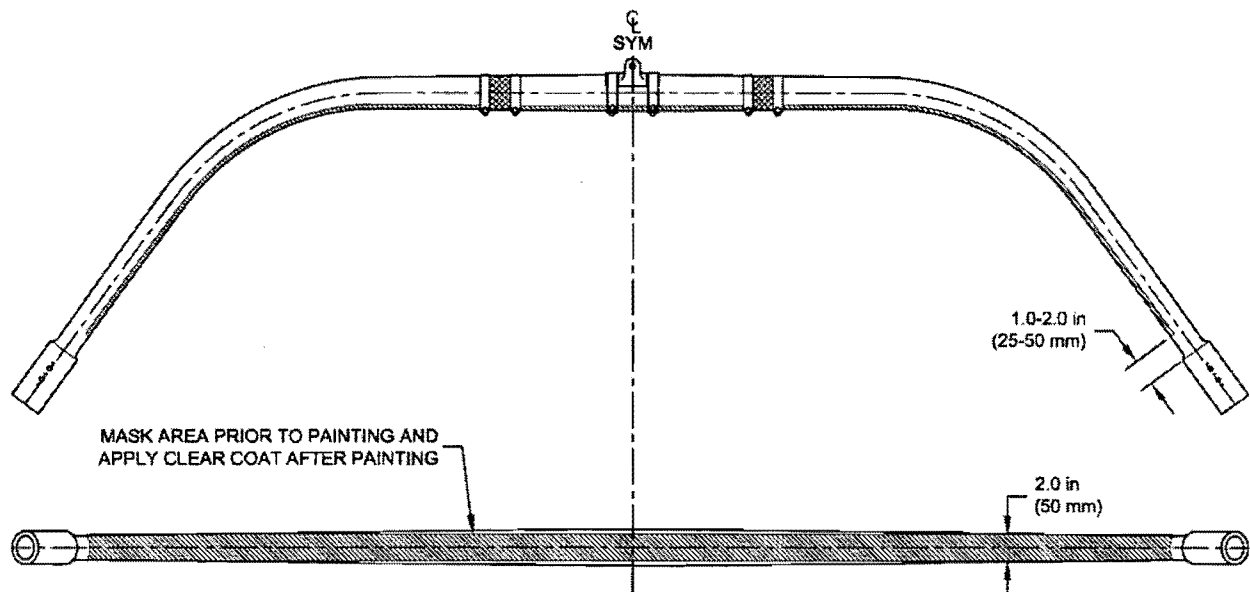

Figure 5-8: Inspection Window on D407-667-205 Crosstube
- 2) Mask underside of crosstube as per hatched area shown in Figure 5-8.